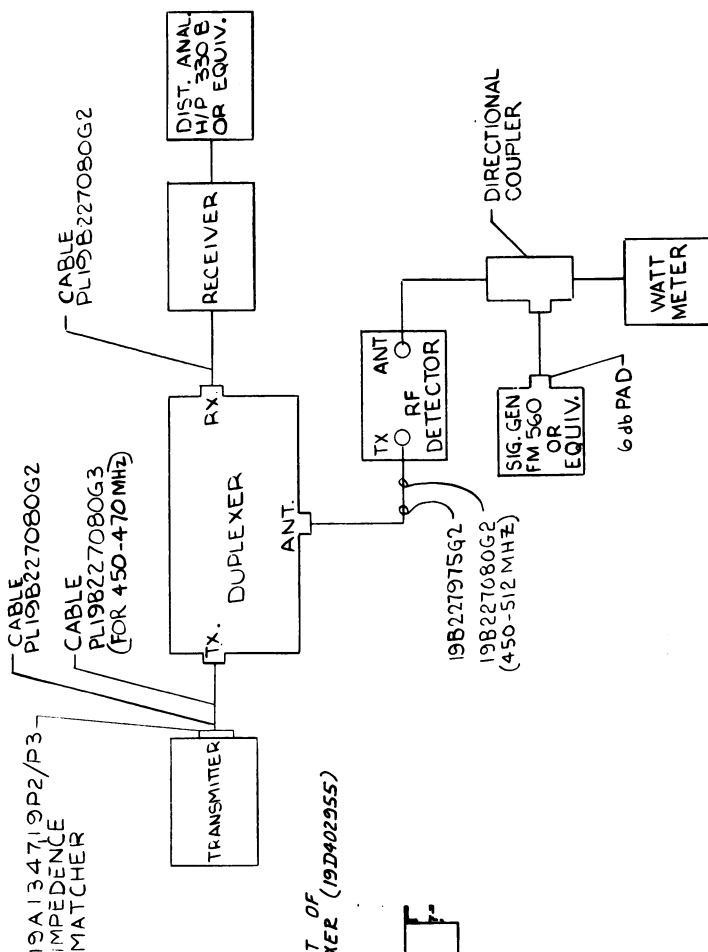

FIG. 1
1. CONNECT STATION PER FIG. 1. ADJUST SIGNAL GENERATOR TO PRODUCE 12 DB SINAD.